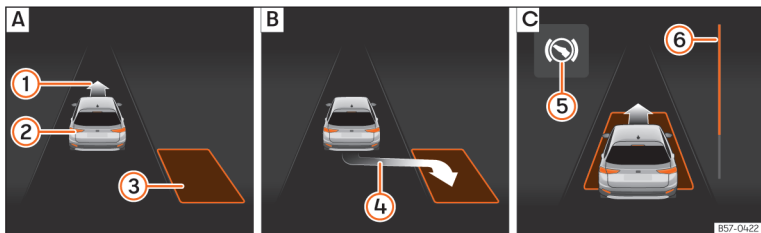
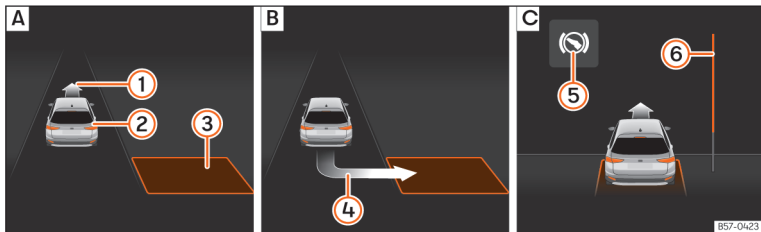

Fig. 164 On the instrument cluster display: parallel parking. **A**: Finding a parking space **B**: Parking position. **C**: Manoeuvring.
Fig. 165 On the instrument cluster display: angle parking. **A**: Finding a parking space **B**: Parking position. **C**: Manoeuvring.
- Look at the instrument cluster screen to see if the space has been detected as “appropriate” and if the correct position for parking has been reached >>> Fig. 164 **B** or >>> Fig. 165 **B**. The space is considered “appropriate” if the instrument cluster display shows the parking indication **4**.
- Reverse until the continuous ParkPilot signal sounds; **OR**: reverse until the indication to move forward appears on the instrument panel display >>> Fig. 164 [C] or >>> Fig. 165 [C]; **OR**: reverse until the **Park Assist finished** message appears on the instrument cluster display. The progress bar ⑥ indicates the distance to cover.
- Press the brake pedal until the parking assist system completes the steering wheel turns; **OR**: until the symbol (S) goes out on the instrument panel screen.
- Move forward until the continuous ParkPilot signal sounds; **OR**: move forward until the reverse indication appears on the instrument panel display. The Park Assist system steers the vehicle forward and back until it centres it in the space >>> Fig. 164 [C] or >>> Fig. 165 [C].
The progress bar >>> Fig. 164 ⑥ and >>> Fig. 165 ⑥ on the instrument cluster display shows the relative distance to be covered as a symbol. The greater the distance, the fuller the progress